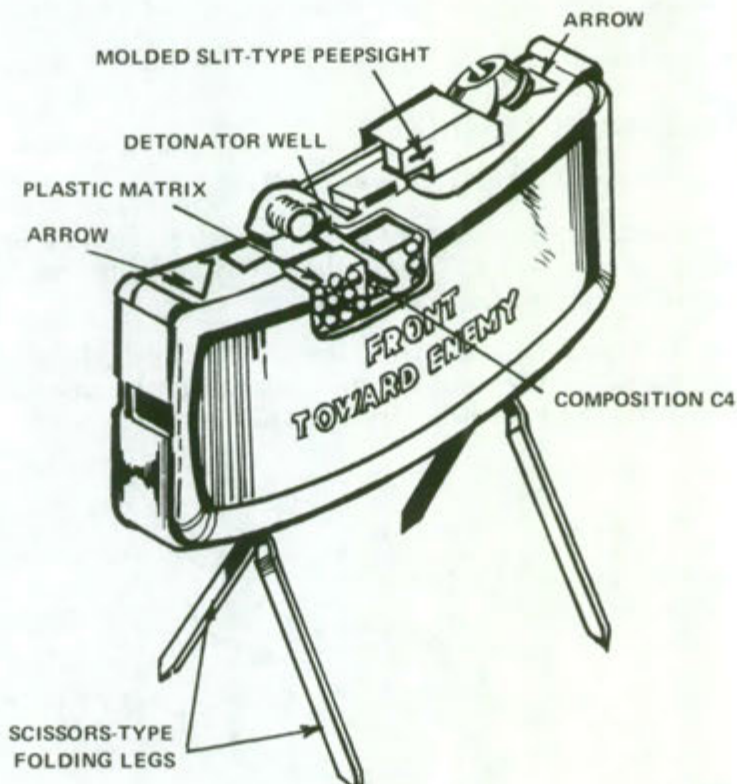

Figure 3.
c. Remove the mine from the bandoleer. Open both pairs of legs to a 45-degree angle with two legs facing to the front and two legs facing to the rear of the mine (figure 3).